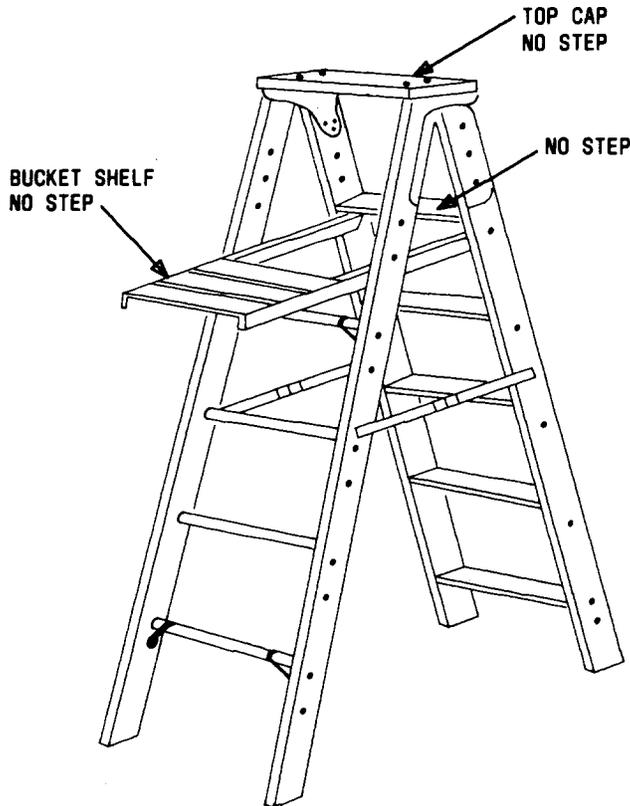

Fig. 1—D Stepladder
2.03 The D stepladder (Fig. 1) is available in 6 and 8 foot sizes. The bucket shelf is useful for certain light building service work.